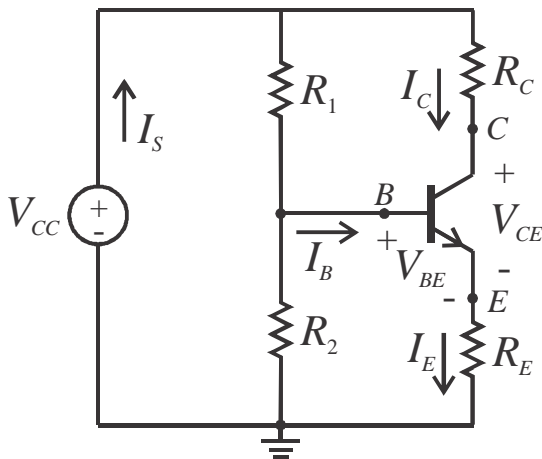

Figure 1 Transistor Circuit
The goals of this lab are to analyze the DC operation of an npn bipolar junction transistor (BJT) in the **active** mode and experimentally verify the results for the circuit shown in Figure 1. For analysis, assume that  $V_{CC} = 17.8\text{ V}$ ,  $R_1 = 39\text{ k}\Omega$ ,  $R_2 = 5.6\text{ k}\Omega$ ,  $R_C = 680\text{ }\Omega$ , &  $R_E = 130\text{ }\Omega$  with a transistor where  $\beta = 190$  and  $V_{BE} = 0.67\text{ V}$ . Datasheet(s) with information on the Fairchild PN2222A transistors used is available on the course web page (purchased 2009-2013).
- 2) Using the equivalent circuit model for the transistor (see section 3.9 in the text), analyze the transistor circuit shown in Figure 1 using **mesh analysis** to find the mesh currents  $I_S$ ,  $I_C$ , &  $I_E$ . Also, calculate the base current  $I_B$ , collector voltage  $V_C$ , emitter voltage  $V_E$ , base voltage  $V_B$ , and collector-emitter voltage  $V_{CE}$ . [Note: **Do NOT** rename variables.]